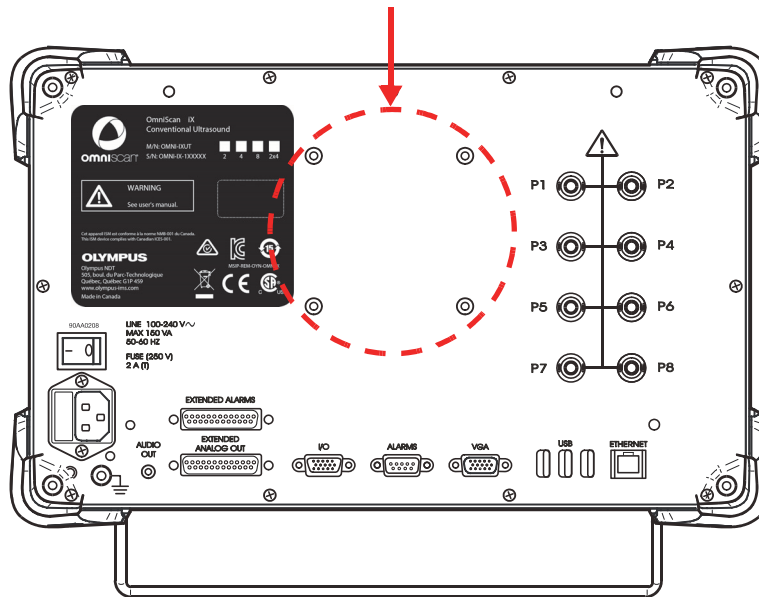

Figure 3-2 The screw holes for the swivel-arm assembly
2. Screw the swivel-arm assembly onto the OmniScan iX back panel using the four screw holes provided specifically for this purpose (see Figure 3-2 on page 33).